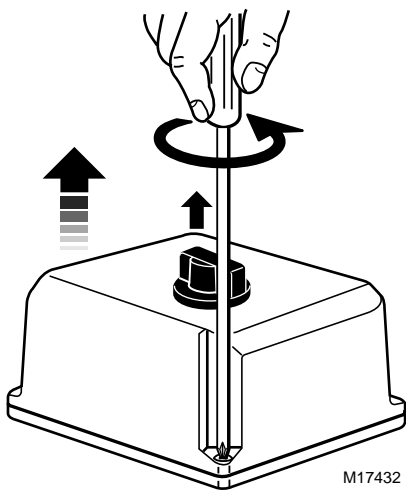

Fig. 3. Removing actuator cover.
7. Remove the cover from the actuator using a Phillips or crosspoint screwdriver. See Fig. 3.